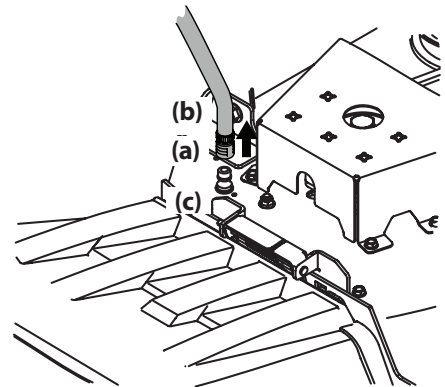

Figure 4-3
3. Pull back the lock collar (a) of the nozzle adapter (b) and push the nozzle adapter (b) onto one of the deck wash nozzles (c) at either end of the tractor deck. Release the lock collar (a) to lock the nozzle adapter (b) on the deck wash nozzle (c). See Figure 4-3.